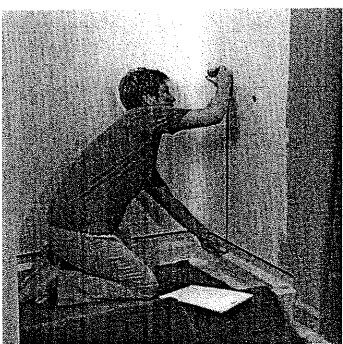

Figure 4
*Measure the distance from the top of a shim on the shower base ledge to the center of each pipe.* See figure 4. Write down your measurements.